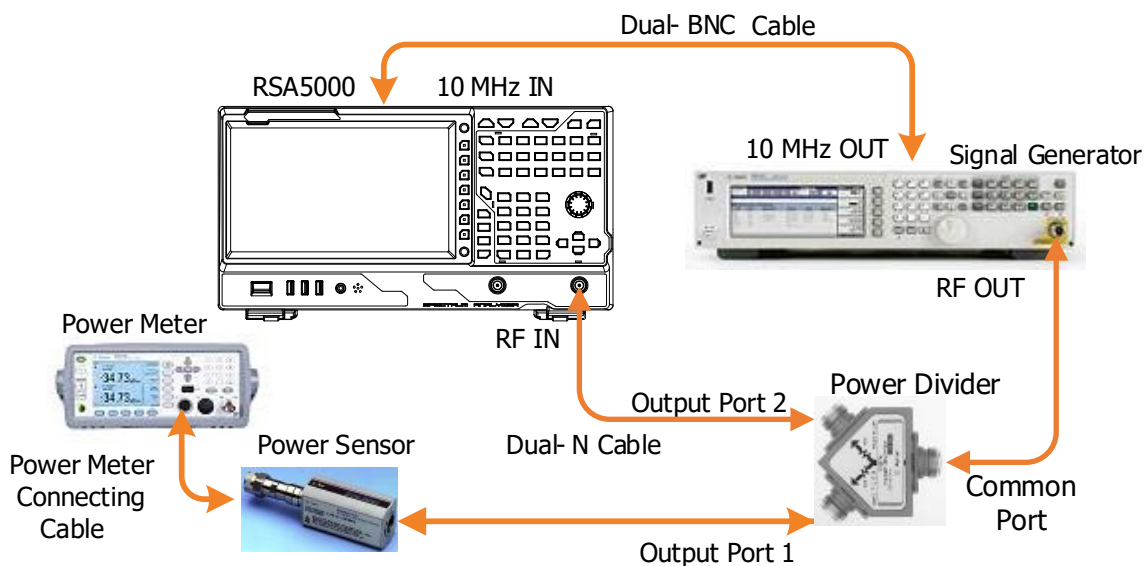

Figure 2-3 Absolute Amplitude Accuracy Test Connection Diagram
2. Connect the output terminal of the signal generator with the common port of the power divider. Connect the output port 1 of the power divider with the power sensor and connect the output port 2 of the power divider with the spectrum analyzer as shown in Figure 2-3.